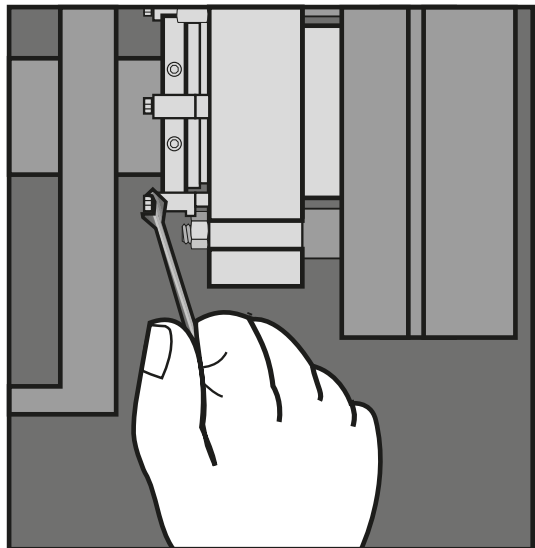

Figure 10
2.8 **Rotate the setting devices** 180° from the drive collar and retighten. See Figure 10. Loosen the hex head bolts in the bronze centering tabs, rotate 180° to clear the drive collar. Retighten the hex head bolts to store the setting device on the gland.